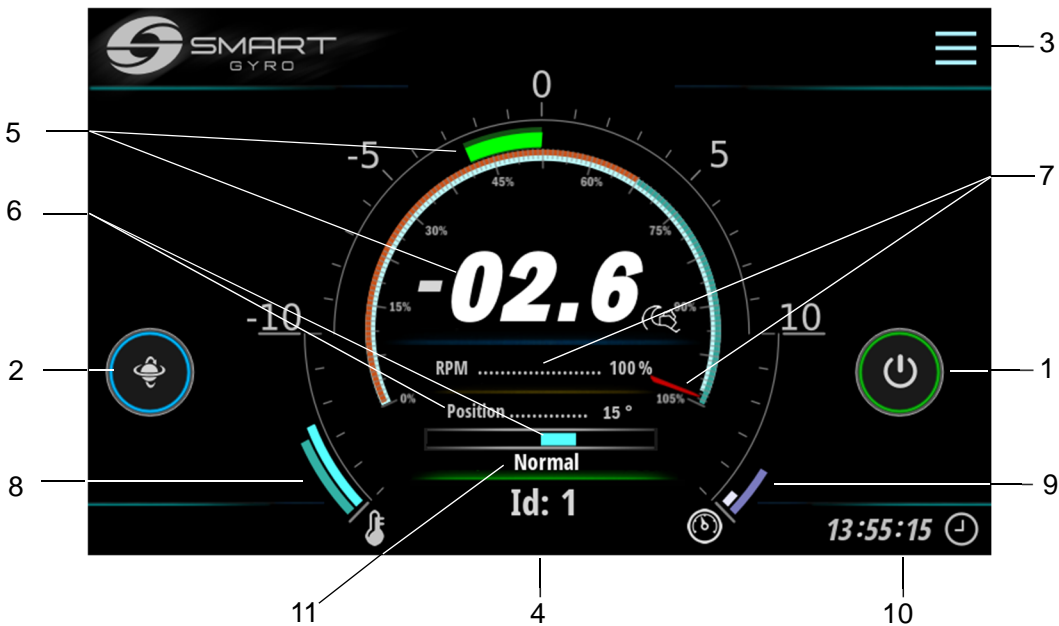

Figure 6
Pressing the Menu icon page (**Figure 6, (3)**) some function icons appear at the top right corner of the screen (**Figure 17**).